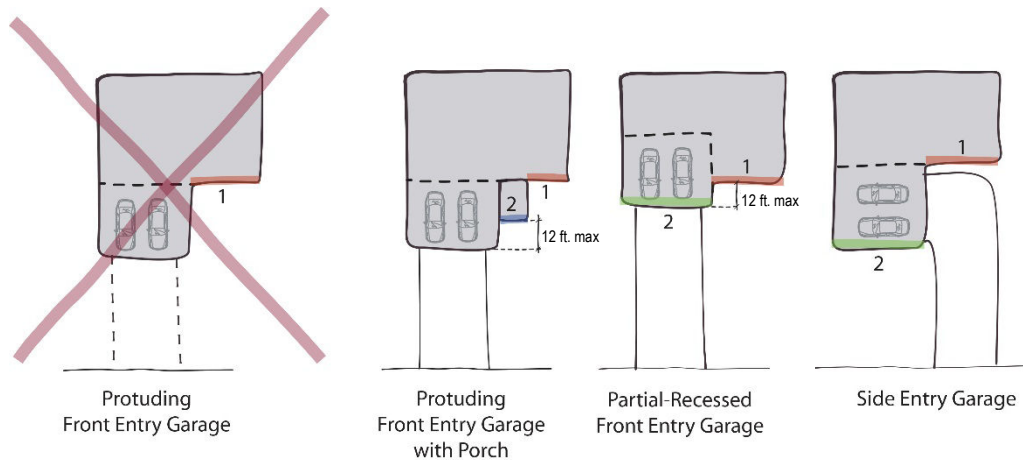

FIGURE 2: Front elevation planes and garages as planes.
- 11.17.3. Homes may not have front-entry garages that protrude more than 12 feet past the front door of the dwelling or top step of the front entry (see Figure 2).